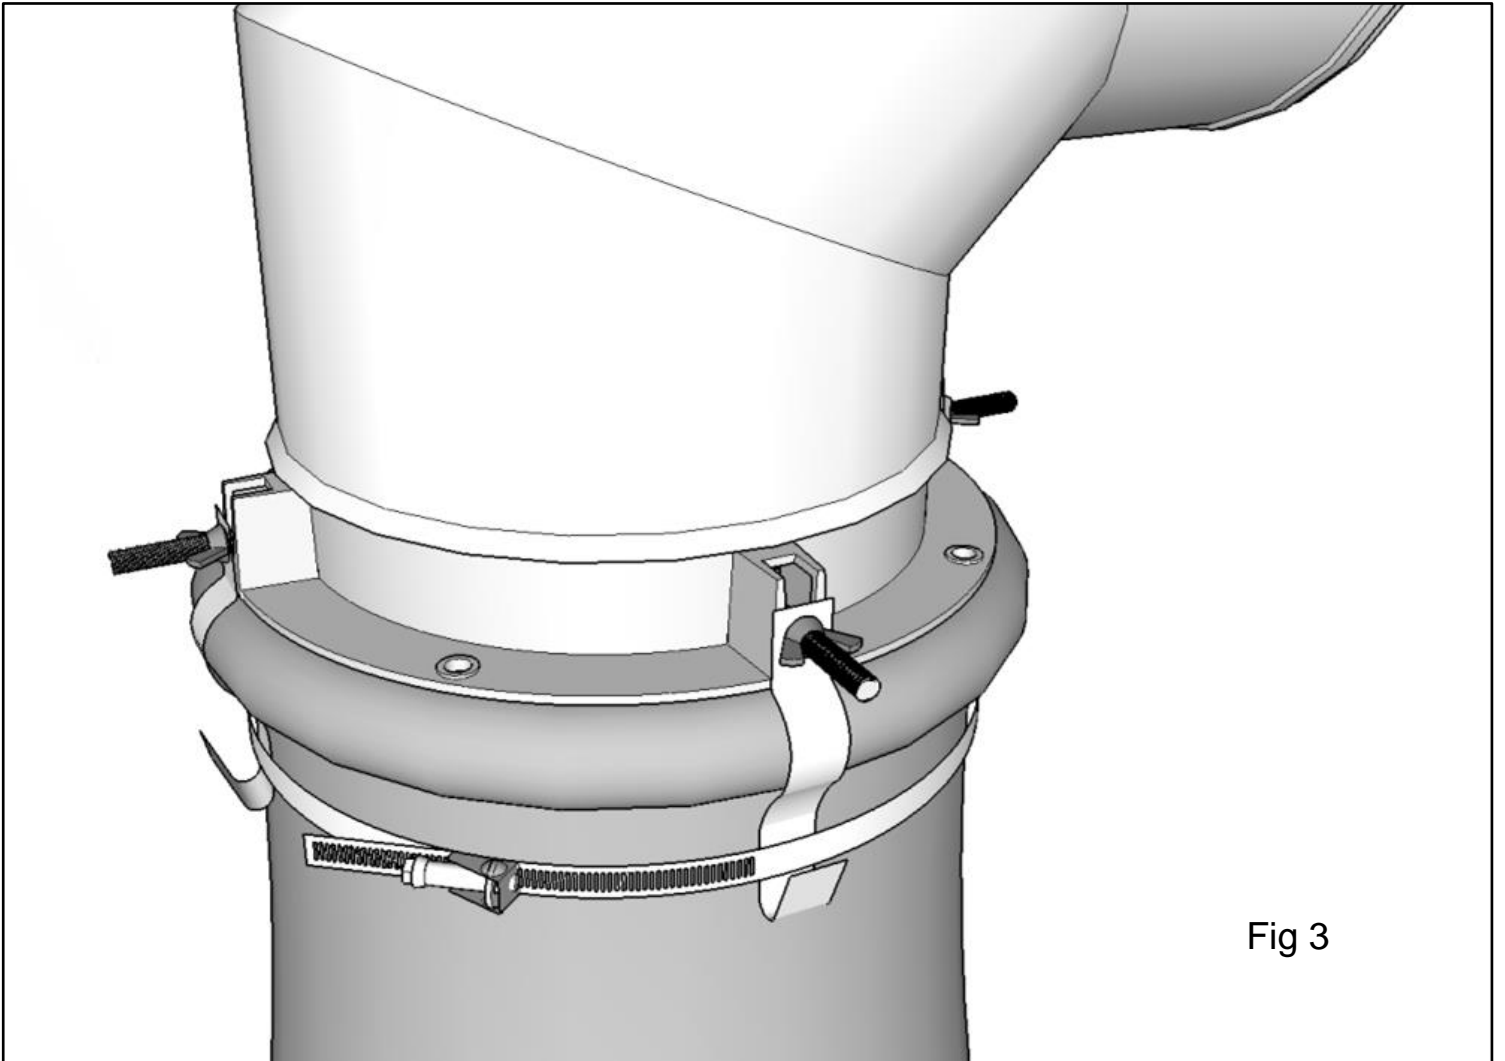

Fig 3
9. Tighten the stainless steel band with a flat bladed screwdriver and bend the bottom of legs back upwards over the stainless steel band. Trim the legs if necessary (fig3).